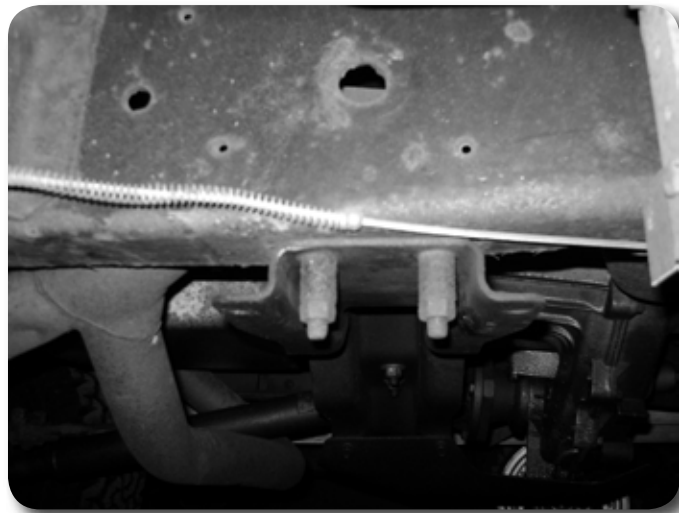

Figure 7
1. Locate the 2 bolts at each frame rail mounting the transmission crossmember. The bolts will have large spacers located either on the bottom or top of the frame. These spacers will be relocated between the crossmember and the frame rails to lower it. **Figure 7**